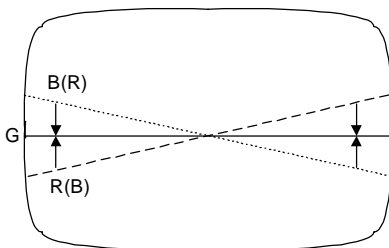

Fig.4
- If the lines are not aligned, as shown in Fig. 4, correct them with the differential coil attached to the deflection yoke.